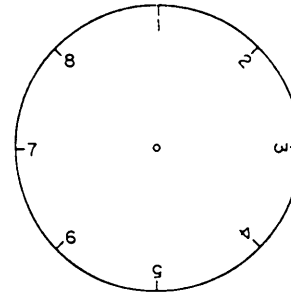

Figure 9-31.—A dial face.
Use a rotary table and a circular copy plate to engrave a dial face, such as the one shown in figure 9-31. Note that the figures on the right side of the dial are oriented differently from those on the left side; this illustrates the usual method of positioning characters on dials. The graduations are radially extended from the center of the face. The graduations also divide the dial into eight equal divisions.
9. To engrave numbers positioned as shown on the right side of the dial in figure 9-31, move the worktable so the cutter is in position to engrave the numbers. Rotate the circular copy plate to the numeral 1 and engrave it. Rotate the rotary table 45° and the circular
10. To engrave the numbers shown on the left side of the dial in figure 9-31, rotate the copy plate to the required number. Then, using the cross feed and longitudinal feed of the engraver table, position the cutter over the work at the point where the number is required. This method requires you to reposition the worktable for each number. As previously stated, movement of the engraver worktable in two directions results in angular misalignment of the character with the radius of the face; in this example, angular misalignment is required.